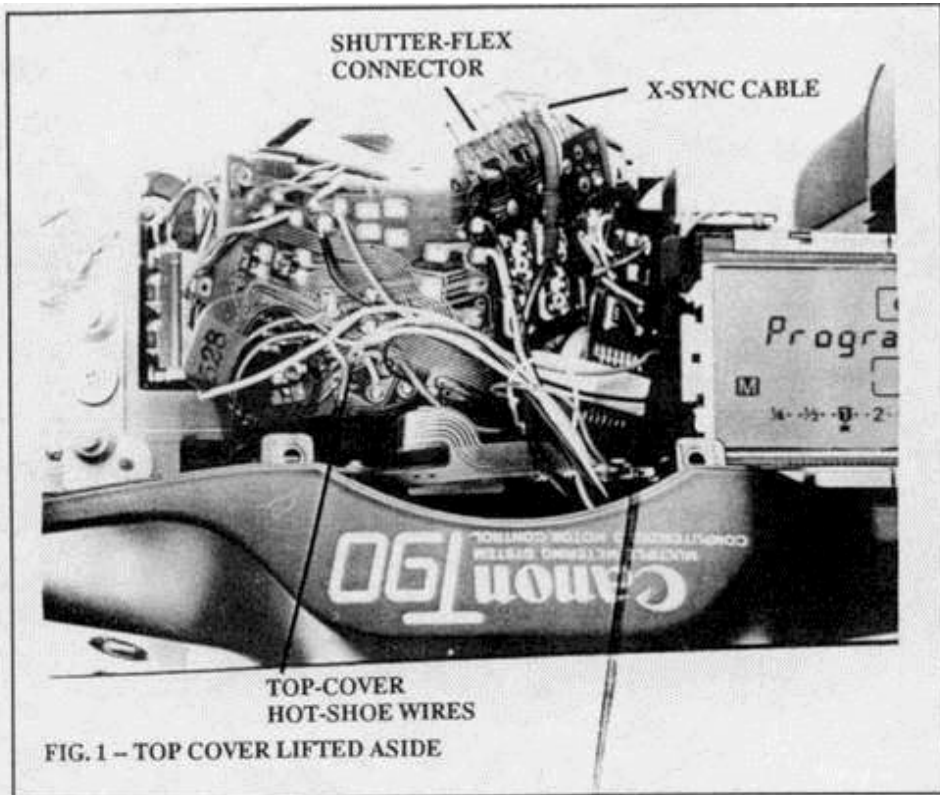

FIG. 1 -- TOP COVER LIFTED ASIDE
- Fig. 1 -- top cover lifted aside